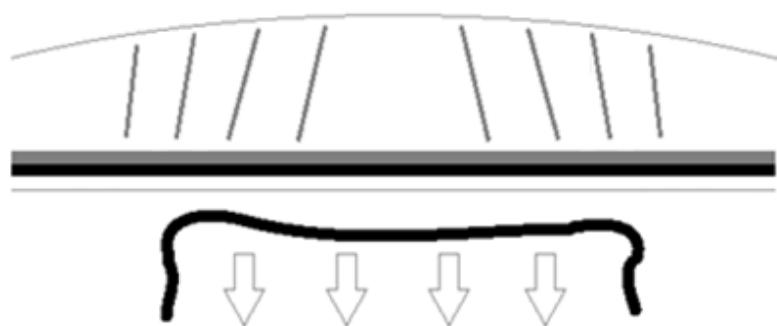

Fig100
- **STEP 1:** Cut a 19mm x 38mm batten to fit across the top of the door frame and end frame between the outer battens that form the rebate. Starting at one end of the polytunnel, trap the polythene with this batten pressed tight against the rebate batten. The polythene should be smoothed out 6 inches either side of the lintel centre and the batten nailed in place along this 12 inch length only (Fig100).